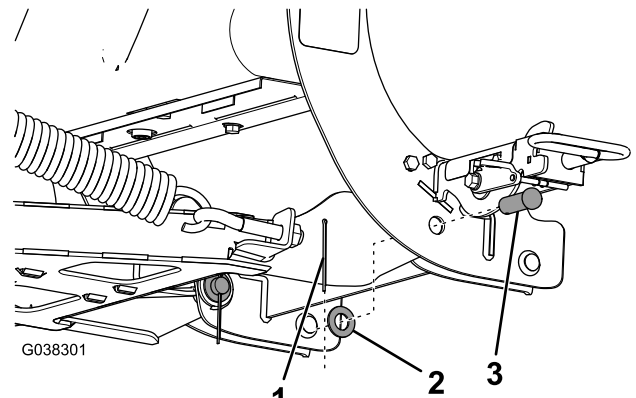

Figure 5
- Align the pivot holes of the coupler tower with the pivot holes on the push-frame assembly, and secure them as shown in Figure 5.